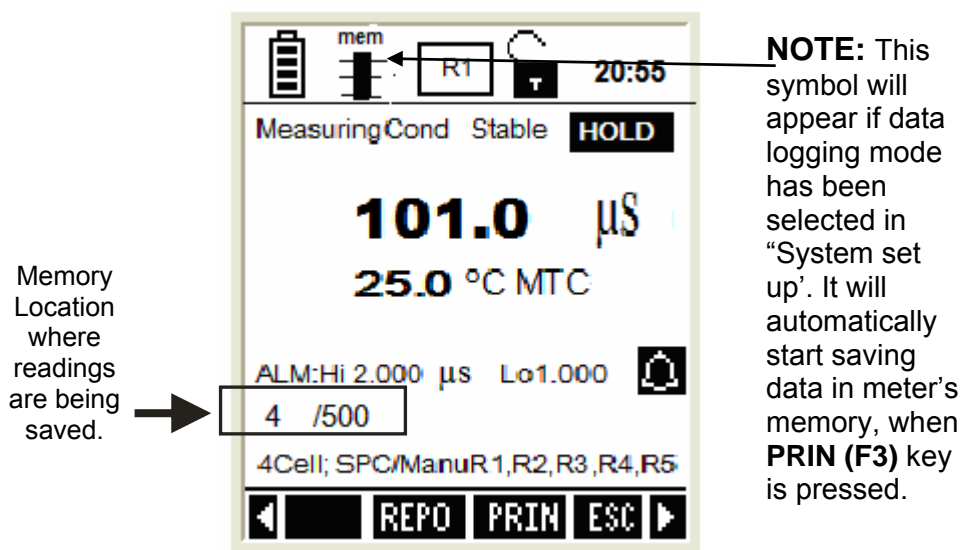

Figure 35 : Saving a reading
2. From measurement mode, press **PRIN (F3)** to start saving data automatically in meter's memory. The memory location of the transferred reading is shown in the bottom-left of the screen. (Figure 35)
3. Press **STOR (F3)** key to store the currently displayed reading. The display briefly shows the memory location where this reading is being saved. (Figure 35)